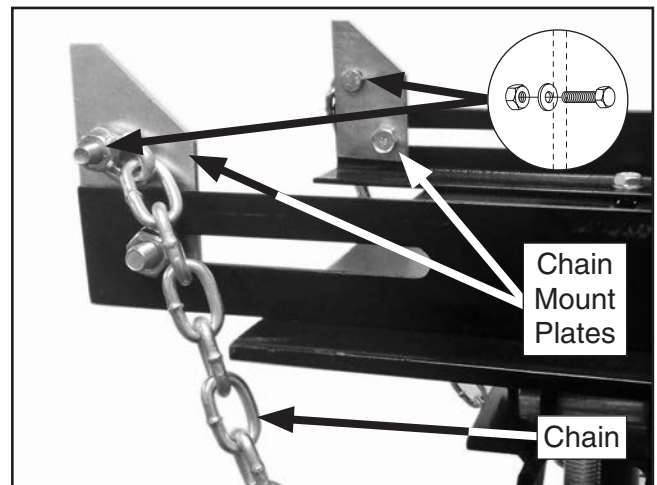

Figure 10. Chain bolted to chain mount plates.
- Place M8-1.25 x 25 hex bolt through open bolt hole in chain mount plate. Attach last chain link with 8mm flat washer and M8-1.25 hex nut (see **Figure 10**). Repeat for opposite corner. Chain connects to unthreaded end of anchor bolt to secure load to platform.